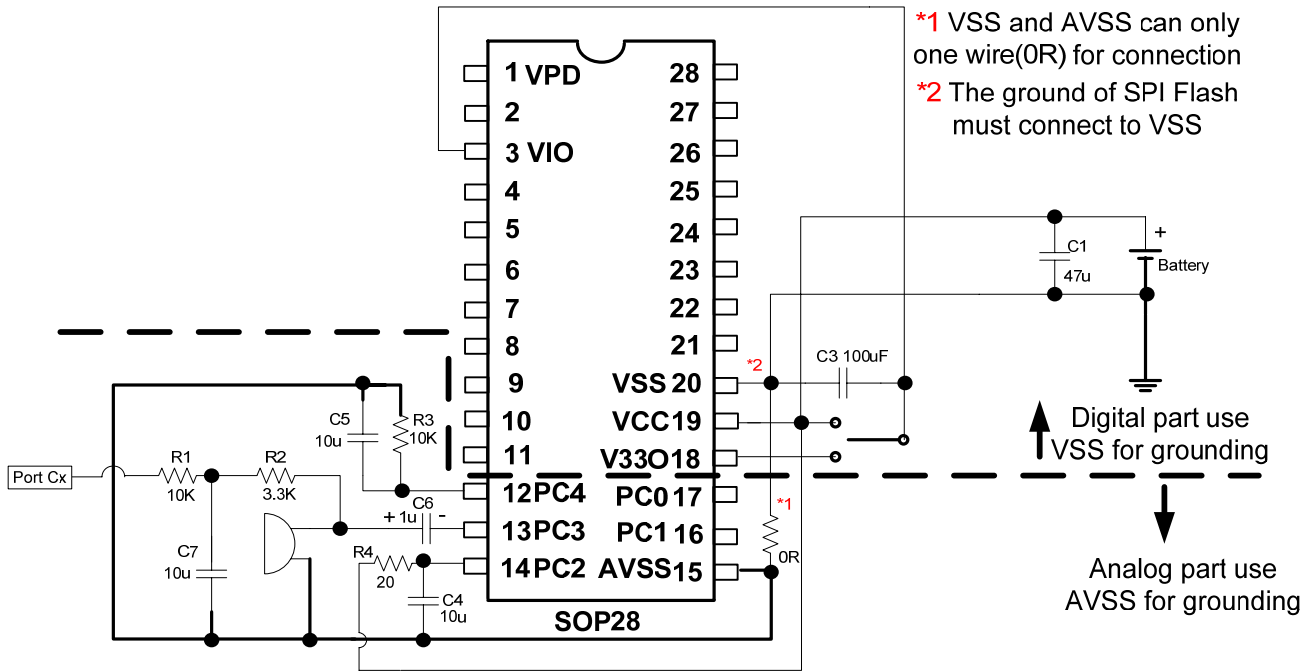

Fig 9.2 Microphone recorder application circuit (Standard version)
*Note: Port Cx(Any IO portC pin) must be set to low at sleep mode in order to save power in Fig 9.2.*